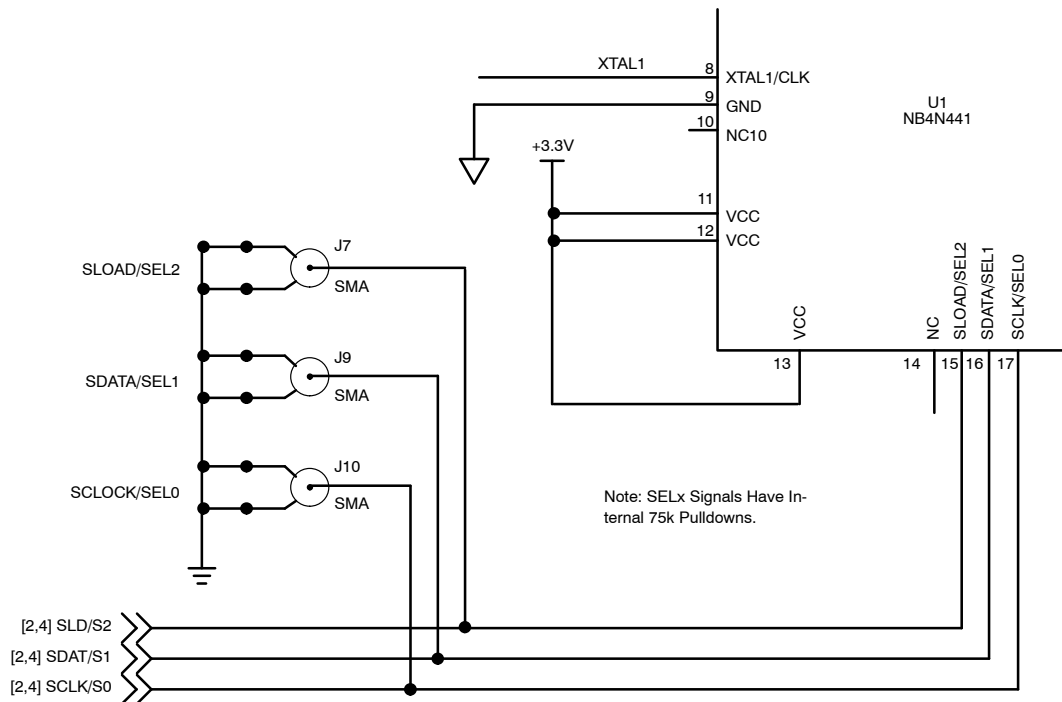

Figure 5. SDI Inputs
1. See datasheet DC Table, AC Table, as well as Figures 5 and 6.